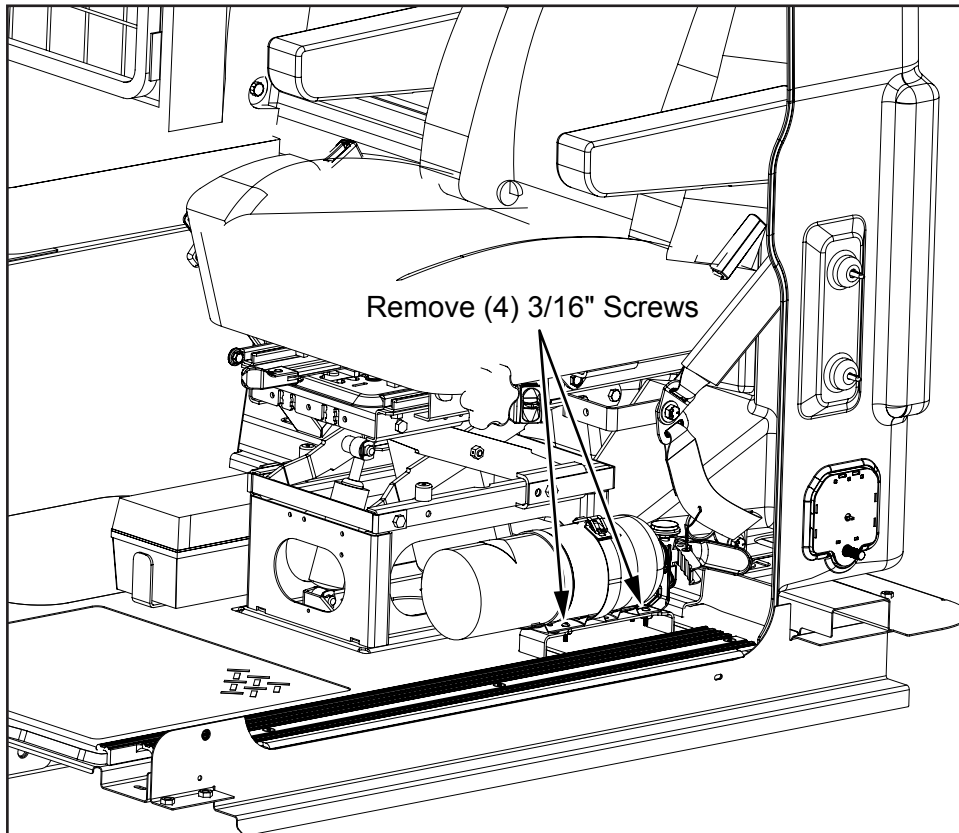

Figure 1
2. Remove (4) 3/16" screws securing the fire extinguisher to the fire extinguisher bracket and set aside for reinstallation (*see Figure 1*).